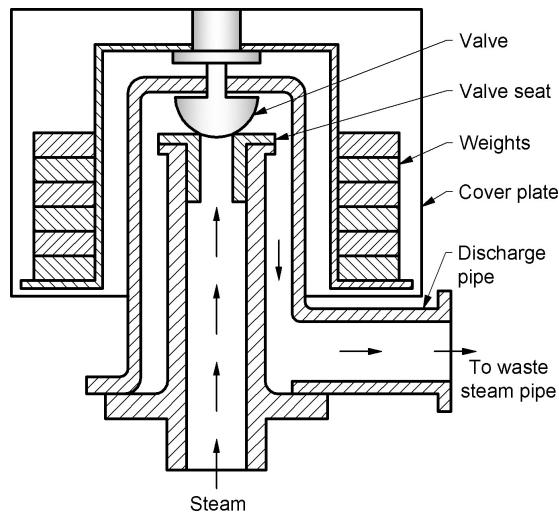

Fig. 2.7 Dead weight safety valve
- Fig. 2.7 shows schematic diagram of dead weight safety valve.